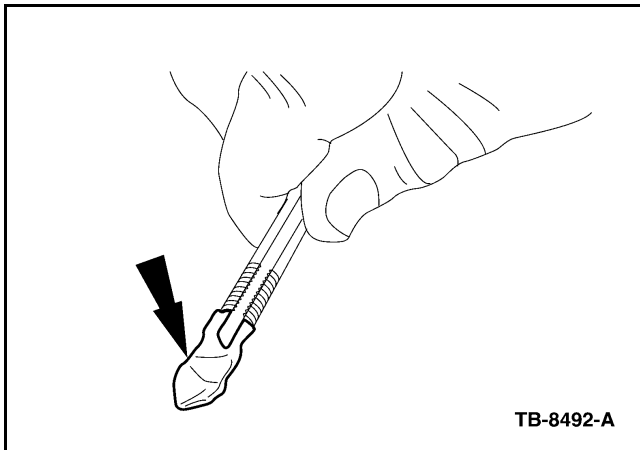

Figure 5 - Article 08-1-9
- a. Coat the end of the tap with general purpose grease. (Figure 5)